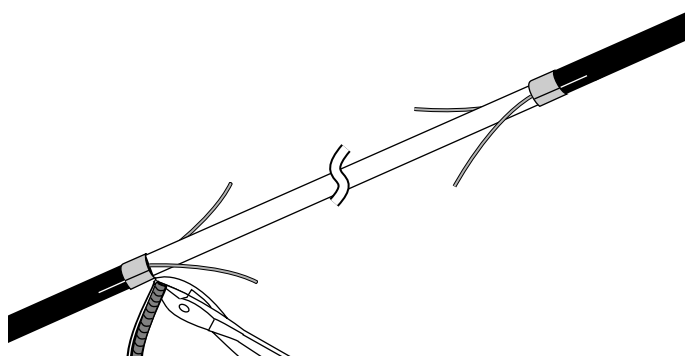

Figure 35
7.22 Carefully flex the sections of armor and sheath and remove them. Side cutters may be helpful in removal (Figure 35).